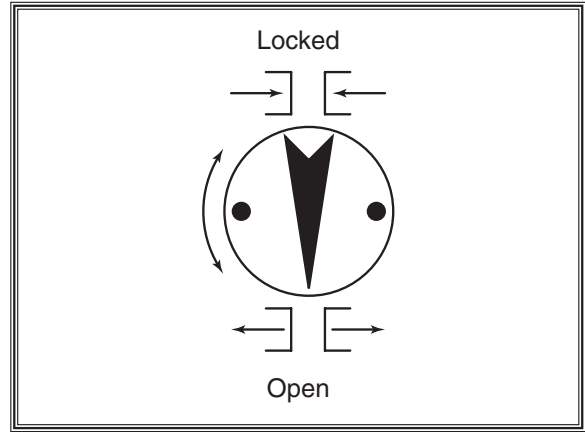

Figure 56. Feed rod lock knob.
2. Move the feed rod lock knob to the open position (see **Figure 56**). This will disengage the feed rod so gears can be changed.
4. Move the feed rod lock knob to the open position (see **Figure 56**).